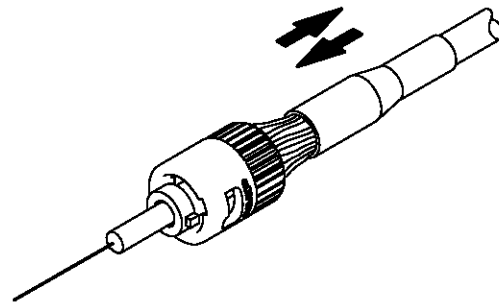

Figure 9
1. While holding the connector, carefully slide the crimp sleeve away from the connector body to release the strength members. See Figure 9.